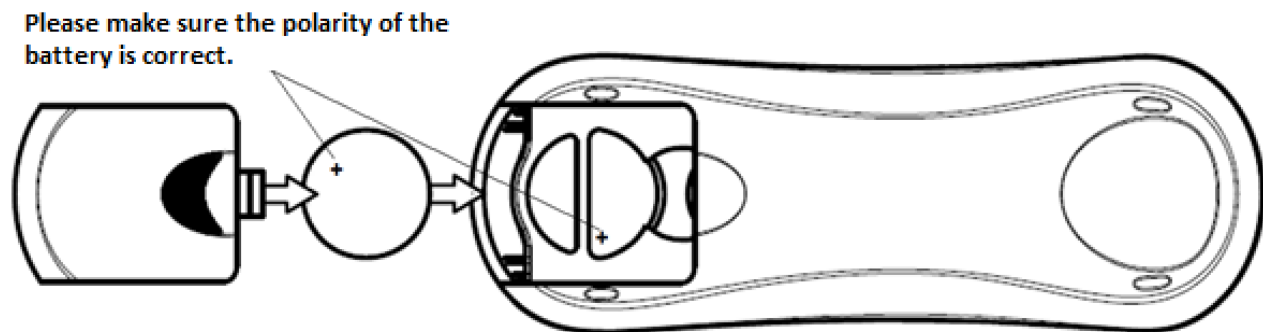

Fig. 12
Install the 3V CR2032 DC battery in the compartment. Please make sure the polarity of the battery is correct. (Fig. 12)
- Install the 3V DC battery in the compartment. Please make sure the polarity of the battery is correct. (Fig.12)